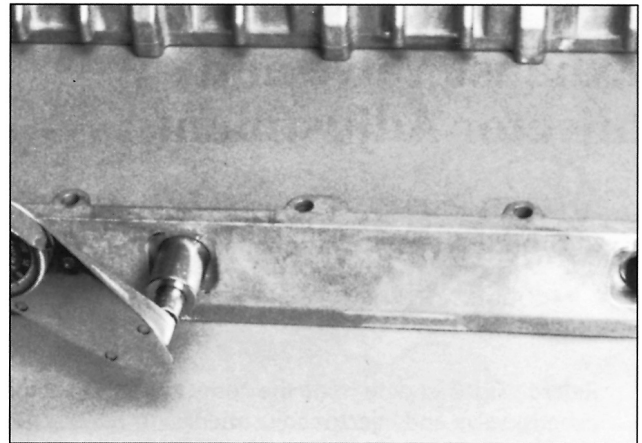

FIG. 8
1. **MODEL 411 ONLY:** Install two (2) electrical lead out assemblies into spacer and torque to 10 lb.-ft. (14 N•m) (see Fig. 8).